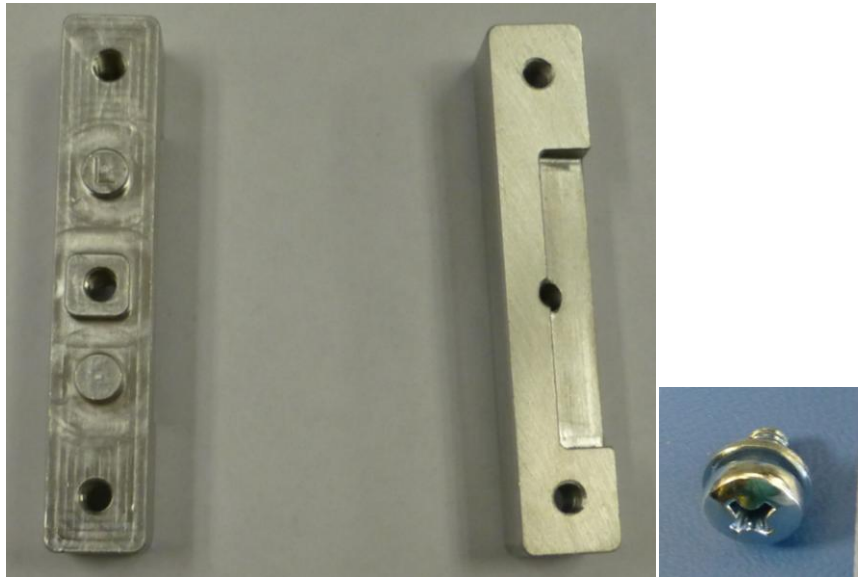
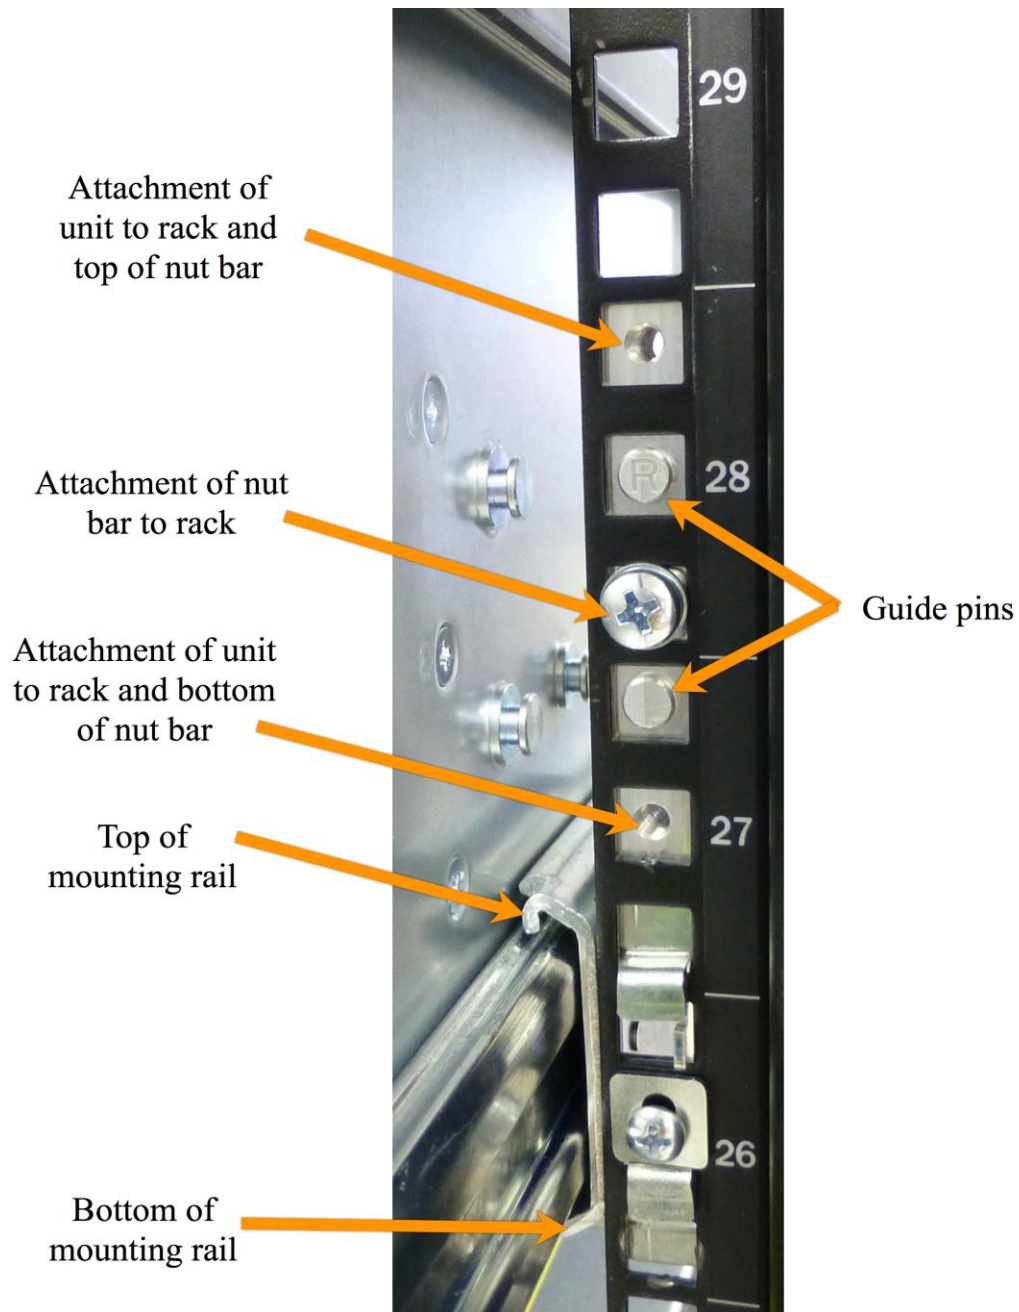

Figure 10. **Nut Bars and Mounting Screw with Washer**
Figure 11. Nut Bar on Rack
Note: Right-side and left-side nut bars are engraved with **R** and **L**, respectively, on their upper guide pins (Figure 10) to enable correct installation. When viewing rack from the front, the left-side nut bar should be installed on the left side of rack and the right-side nut bar should be installed on right side of rack.
1. For either the left-side or right-side nut bar, mount one (1) of the two (2) nut bars (Figure 10) into rack directly above the mounting rail (Figure 11) using mounting screw with washer to attach to the rack.